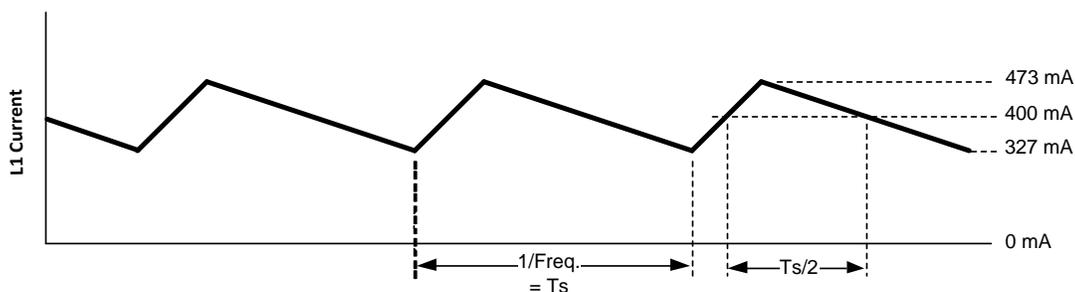

Figure 12. Inductor Current Waveform
b) Allowable Ripple: For a maximum allowed ripple voltage of 200mVp-p at V_{OUT2} (@ $V_{IN} = 75V$), assume an ESR of 0.5Ω for C2. At maximum V_{IN} , the ripple current is 146mA p-p, creating a ripple voltage of 73mVp-p. This leaves 127mVp-p of ripple due to the capacitance. The average current into C2 due to the ripple current is calculated using the waveform in Figure 12.
Starting when the current reaches I_o (400mA in Figure 12) halfway through the on-time, the current continues to increase to the peak (473mA), and then decreases to 400mA halfway through the off-time. The average value of this portion of the waveform is 36.5mA, and will cause half of the voltage ripple, or 63.5mV. The interval is half of the frequency cycle time, or 1.26μs. Using the capacitor's basic equation: